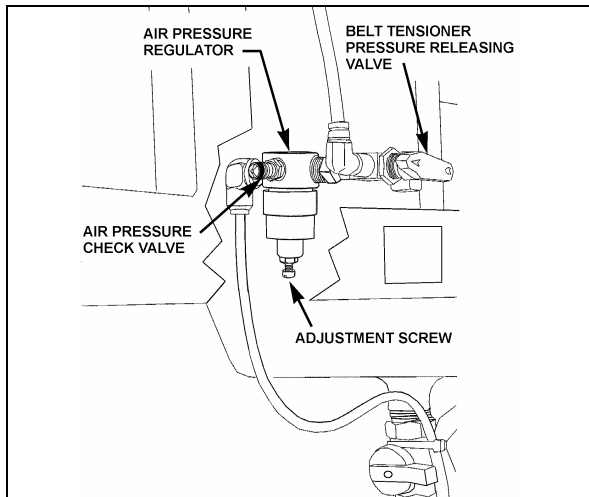

FIGURE 8: BELT TENSIONER VALVE 12200
5. Locate the A/C compressor belt tensioner pressure releasing valve (Fig. 8). Turn pressure releasing valve handle counterclockwise in order to release pressure in belt-tensioner air bellows and loosen belt. Remove the A/C compressor belt.